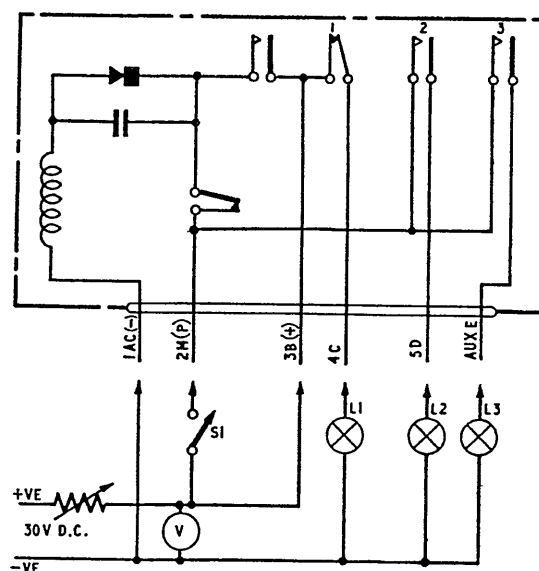

Fig. 1. Switch, Type D8420, circuit diagram and test circuit
1. This time delay switch has two pairs of circuit contacts, the circuit diagram (fig. 1) shows the switch internal wiring and the associated test circuit. The total motor run and circuit contact timing is detailed in para. 3.